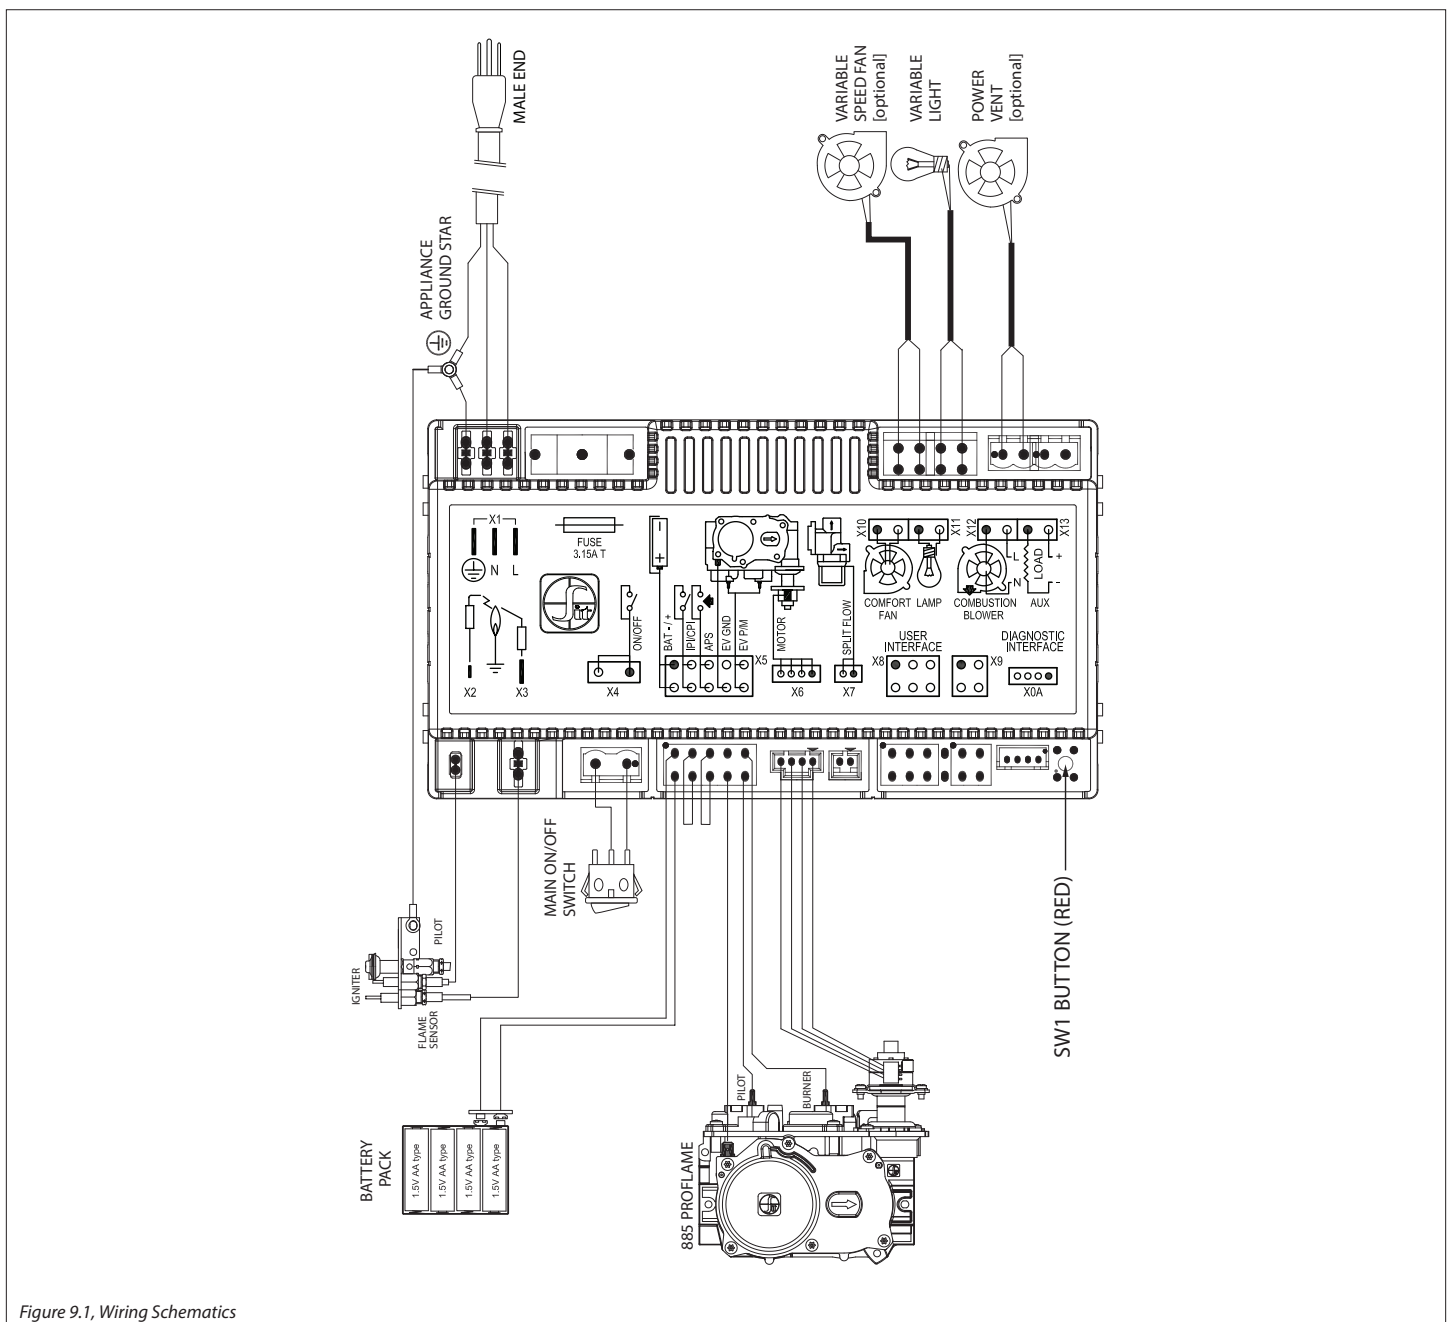

Figure 9.1, Wiring Schematics
9. Plug the fan cord into the receptacle on the IFC control module. See Figure 9.1 on page 60.